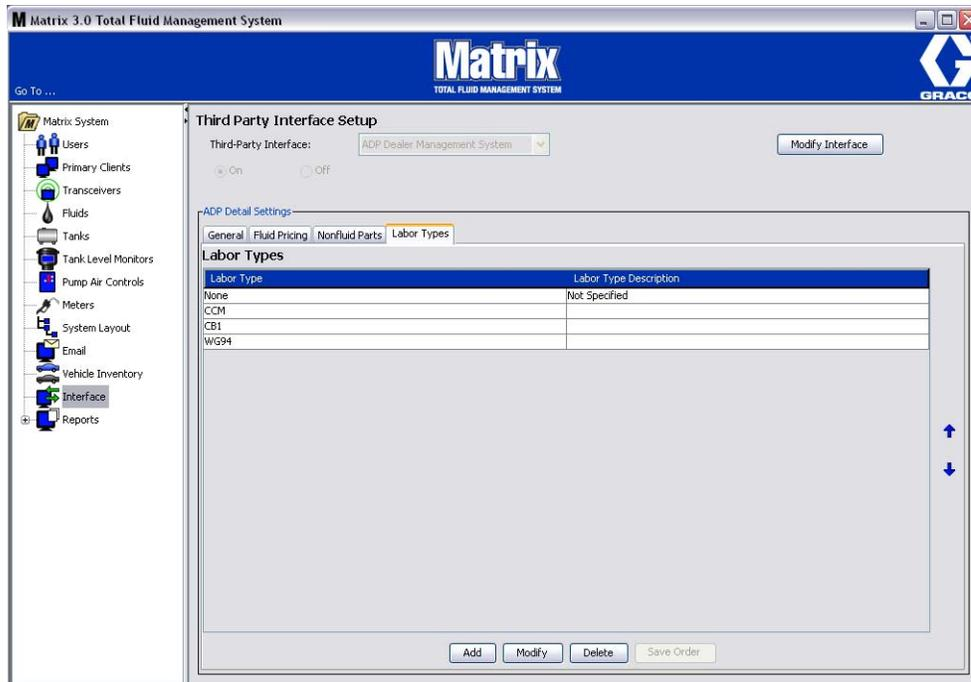

FIG. 209
2. Click the **OK** button to add the new Labor Type to the list displayed in the Labor Types column of the Labor Types Screen (FIG. 209, page 155).